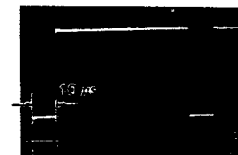

Fig. 3-5
- (1) Connect an oscilloscope to pin ③ of IC22 on BC BOARD.
- (2) Adjust R45 (NBL WIDTH) so that the N. blanking width is $10 \pm 0.2 \mu$ s as shown in Fig. 3-5.